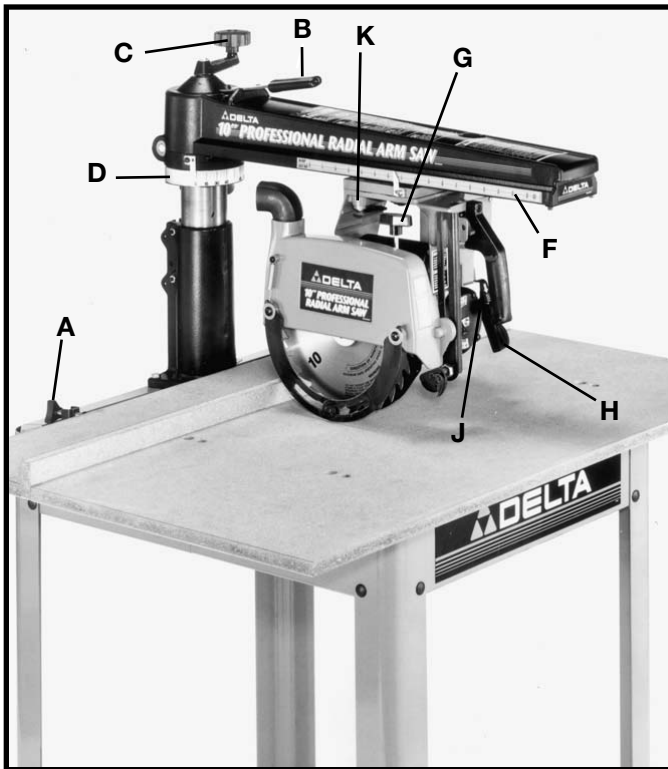

Fig. 6
The following is an explanation of the operating controls of the Delta 10" Radial Saw. We suggest you study these explanations carefully to familiarize yourself with the controls before turning on the power. Doing otherwise may cause damage to the saw or personal injury (Figs. 6 and 7).
A. TABLE CLAMP KNOBS. Allows the operator to quickly set the desired fence position. Fig. 6
B. TRACK ARM INDEXING RELEASE HANDLE. Releases the indexing pin from the 0 degree and 45 degree positions to allow the arm to rotate. Depress handle to release the index pin. Fig. 6
C. TRACK ARM ELEVATING HANDLE. Controls the depth-of-cut in all operations. Turn the handle clockwise to raise or counterclockwise to lower the track arm. Fig. 6
D. MITER SCALE. Indicates degrees left and right for setting track arm to desired miter angle. Fig. 6
F. RIP SCALE. Indicates the in and out rip positions of the cutter-head. Fig. 6
G. BLADE GUARD CLAMP KNOB. Clamps the blade guard at rotated positions for ripping. Fig. 6
H. BEVEL CLAMP HANDLE. Controls tilt of motor for bevel cutting operations. Locks motor at any desired angle on the bevel scale. Lift handle to loosen and push down to lock. Fig. 6
J. BEVEL INDEX RELEASE KNOB. Locates 0 degree, 45 degree, and 90 degree. Positions the motor for bevel setting. When tilting the motor for bevel cutting, the bevel clamp handle must first be loosened. To release the index pull out on the release knob. Fig. 6
K. YOKE INDEXING RELEASE LEVER. Locates each 90 degree position of the yoke for ripping or cross-cutting operations. When rotating the yoke, the yoke clamp handle must first be loose. Push the release lever either up or down to release the indexing pin. Fig. 6